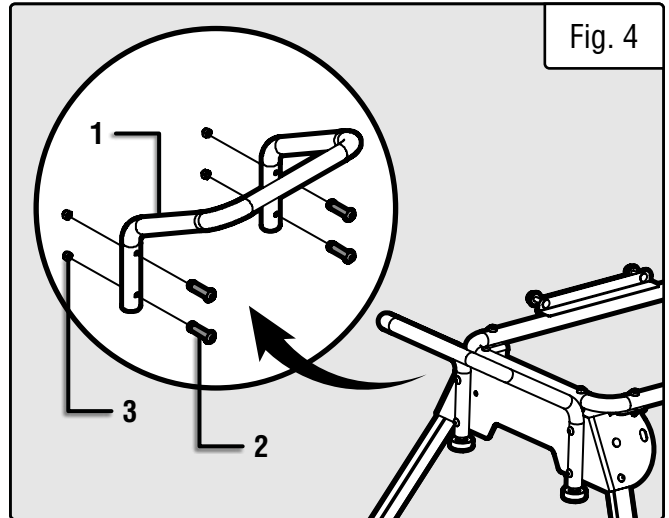

Fig. 4
1. Install the front handle (Fig. 4 - 1) onto the stand body. Secure it with four M8x40 bolts (Fig. 4 - 2) and M8 lock nuts (Fig. 4 - 3). Tighten using the included 5mm hex wrench and 13mm wrench.
3. Lower the stand to the ground. Pick the stand up by the front handle (Fig. 4 - 1) and roll it wherever it's needed.